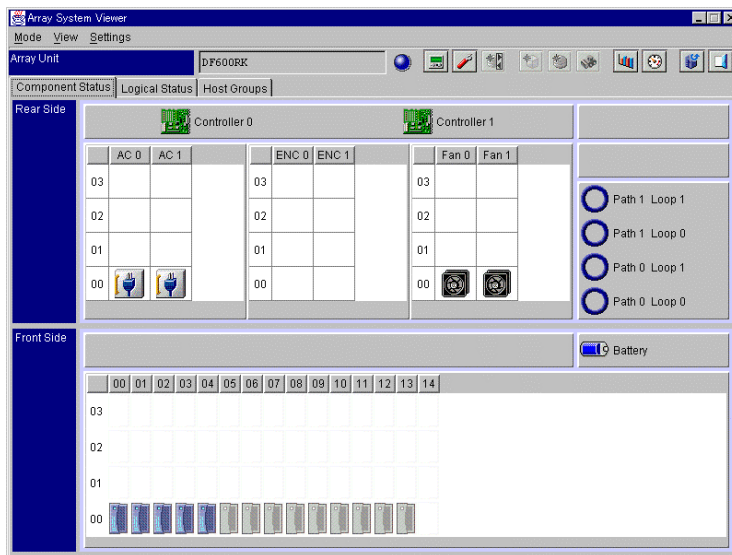

Figure 2.1 Array System Viewer Panel
The Array System Viewer panel appears and displays the connected subsystem (see Figure 2.1)
2. Register the array unit in which you will uninstall SANTinel 9500V. Connect to this array unit. The Array System Viewer Panel appears (refer to Figure 2.1).